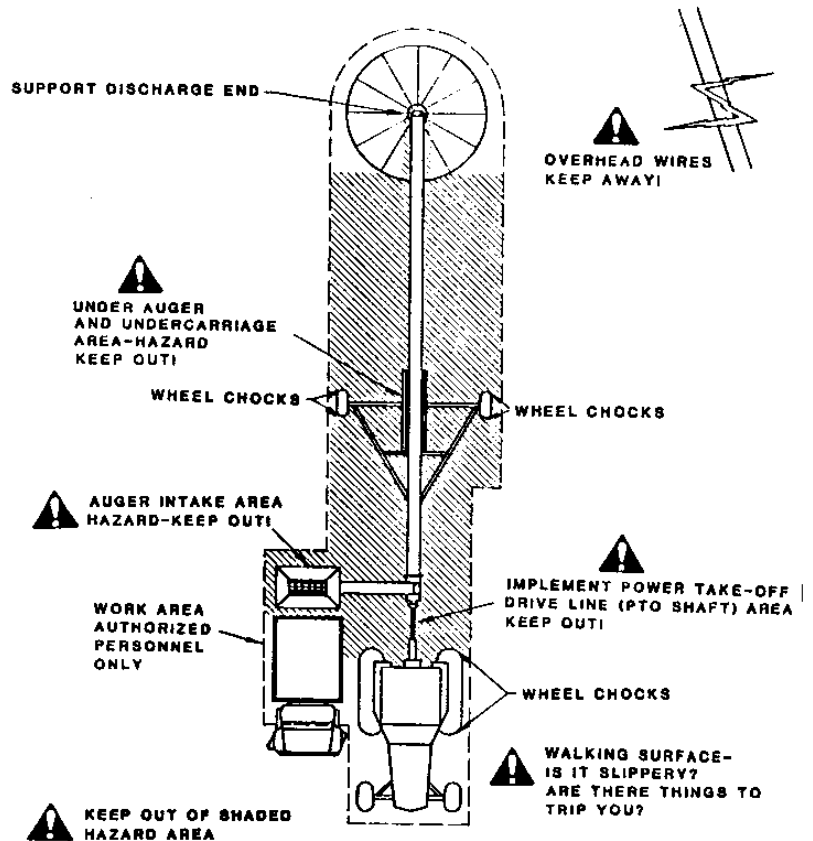

Fig. 11 WORKPLACE HAZARD AREA
3. Review the Workplace Hazard Area drawing and use extra care when inside the hazard area. See Fig. 11. Keep all spectators and bystanders out of this area. Should anyone enter this area, stop the machine immediately.